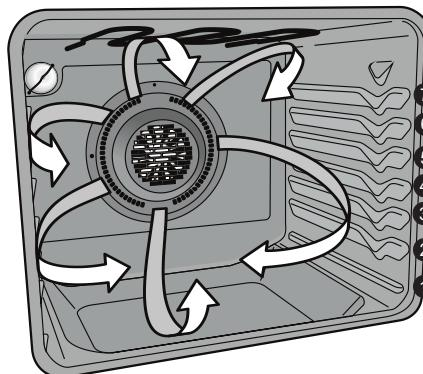
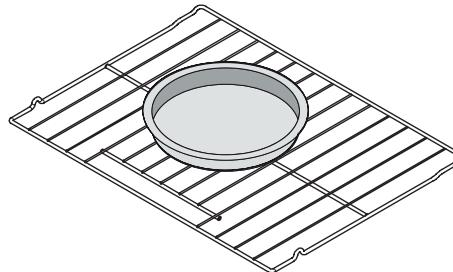

Figure 12: Rack positions
Figure 13: Suggested pan placement
- Always place food in center of the oven on rack position 4 (Figure 12). Place the food as shown in Figure 13.